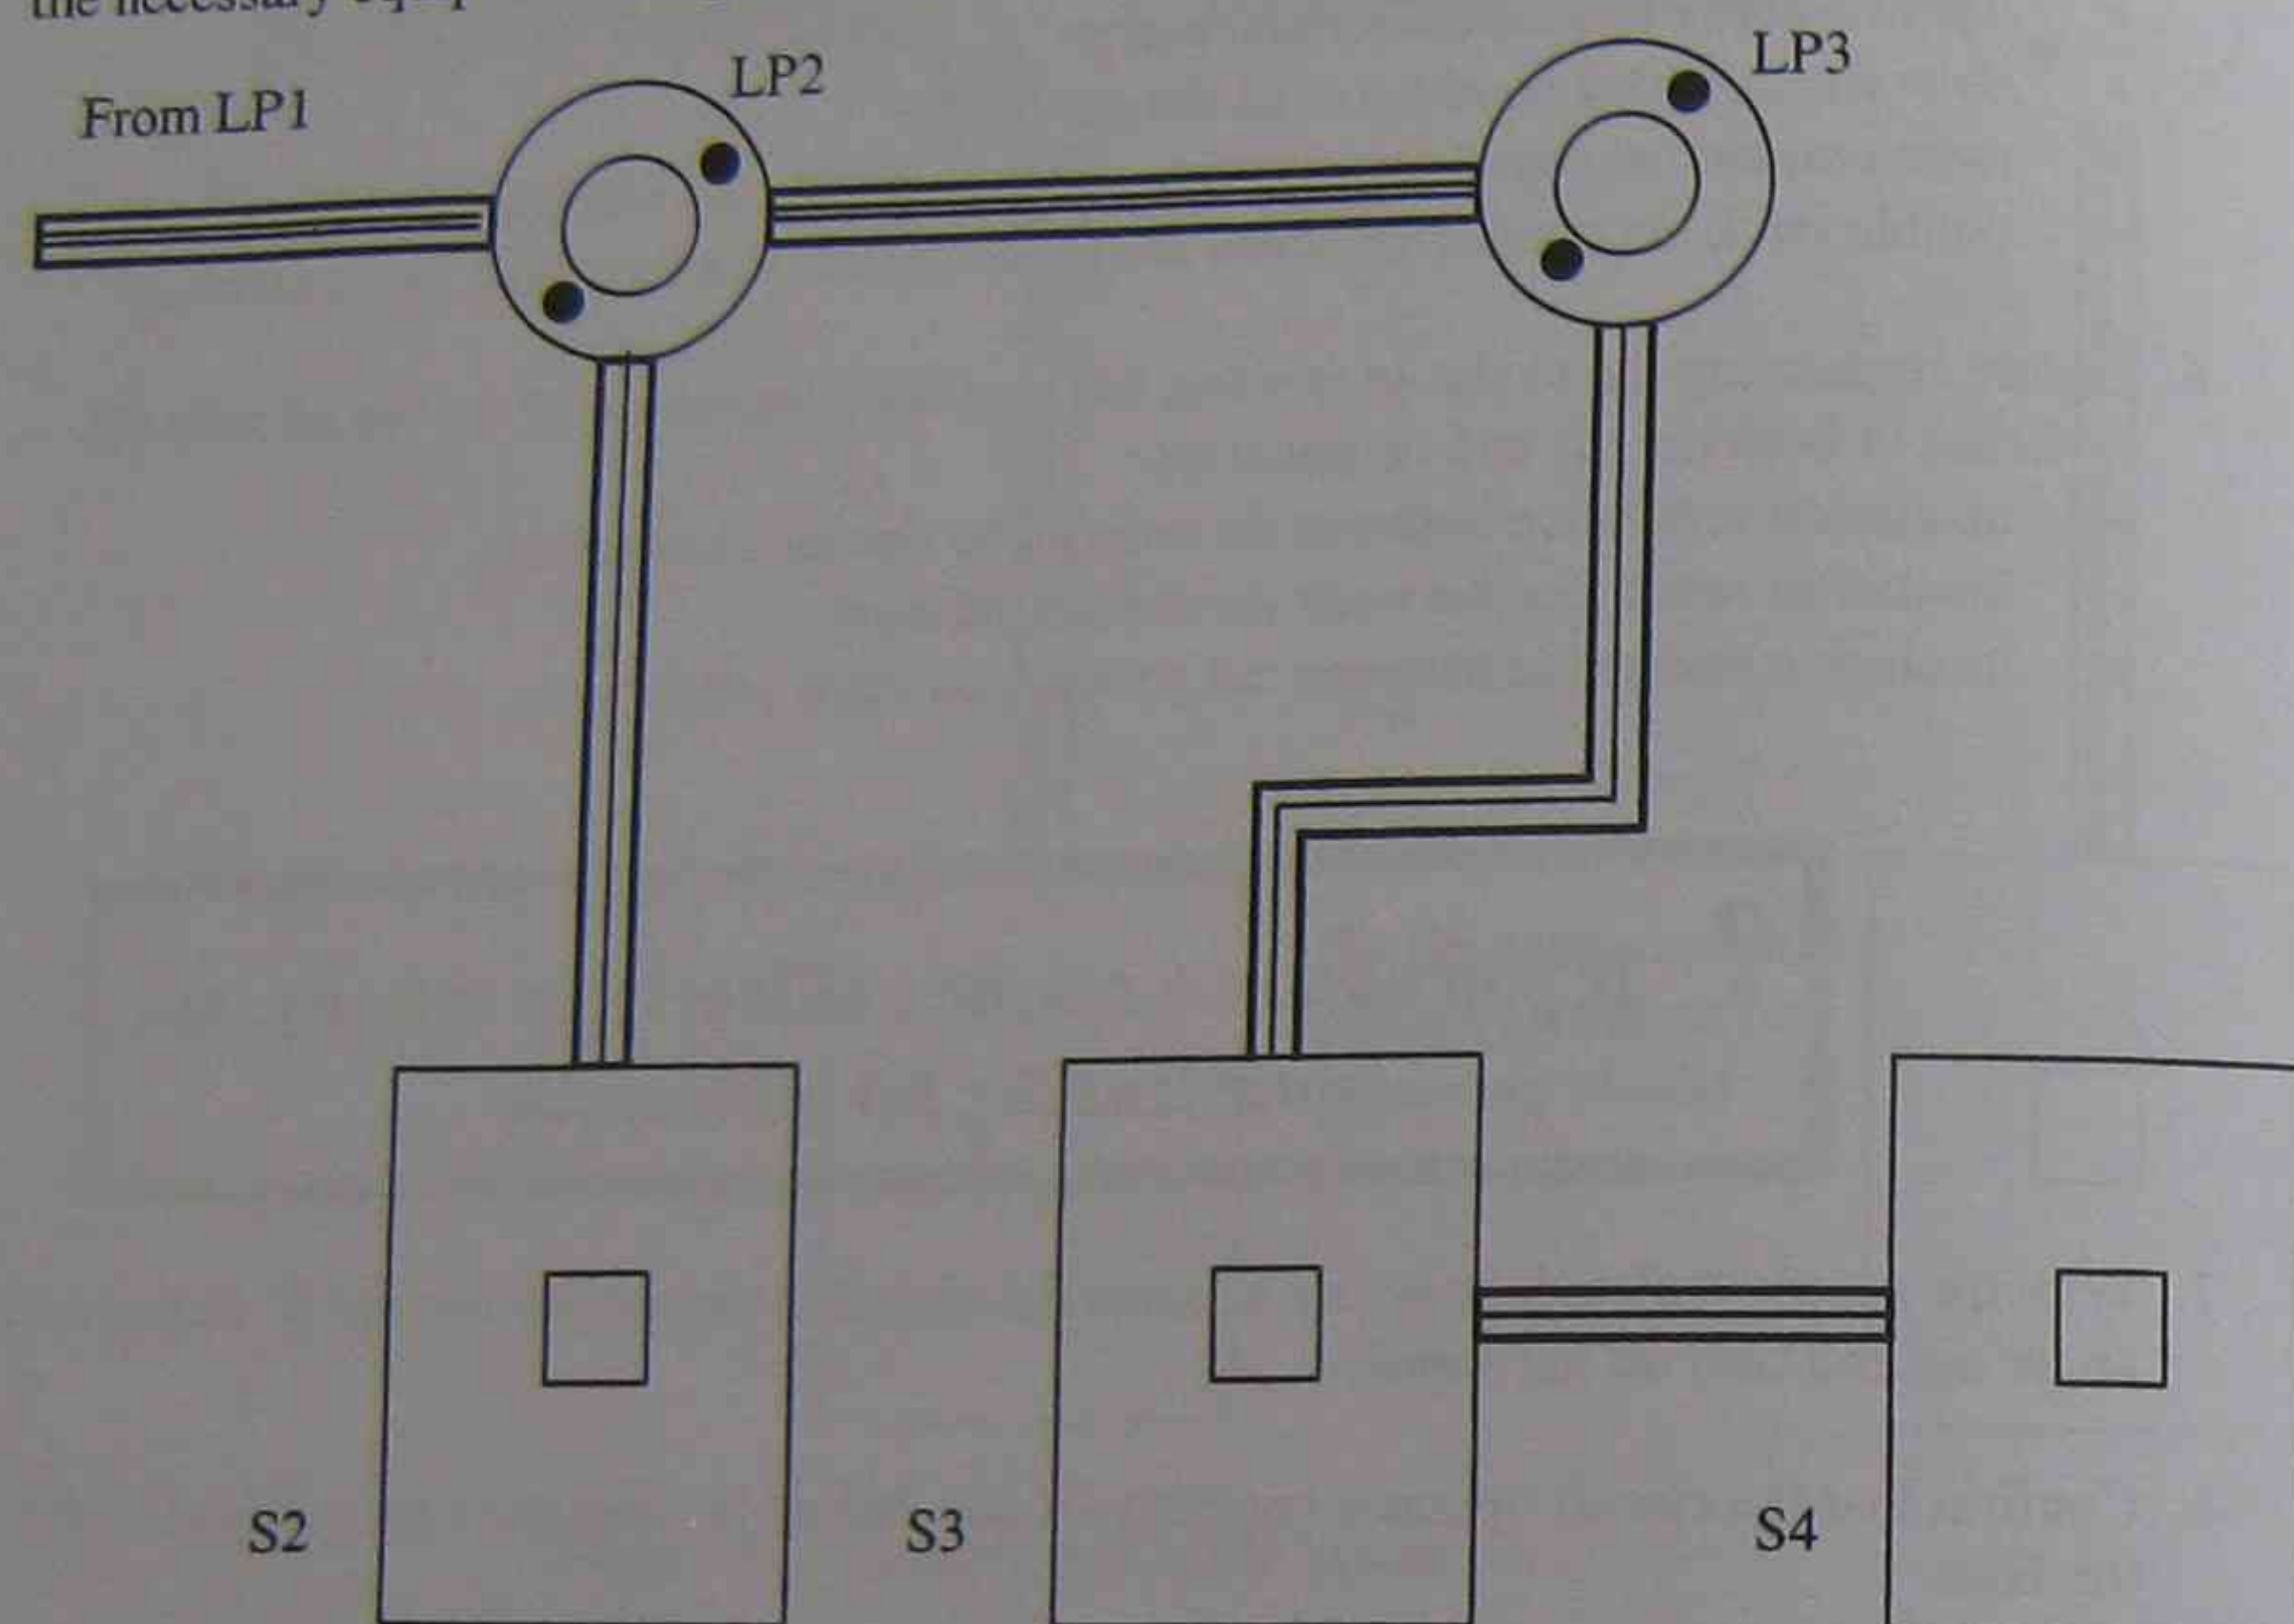

Figure 12 Equipment layout – two-way lighting circuit
1. The drawing of Figure 12 shows the layout of the additions to the circuit to be installed. Obtain the necessary equipment using the diagram and parts list as a guide.